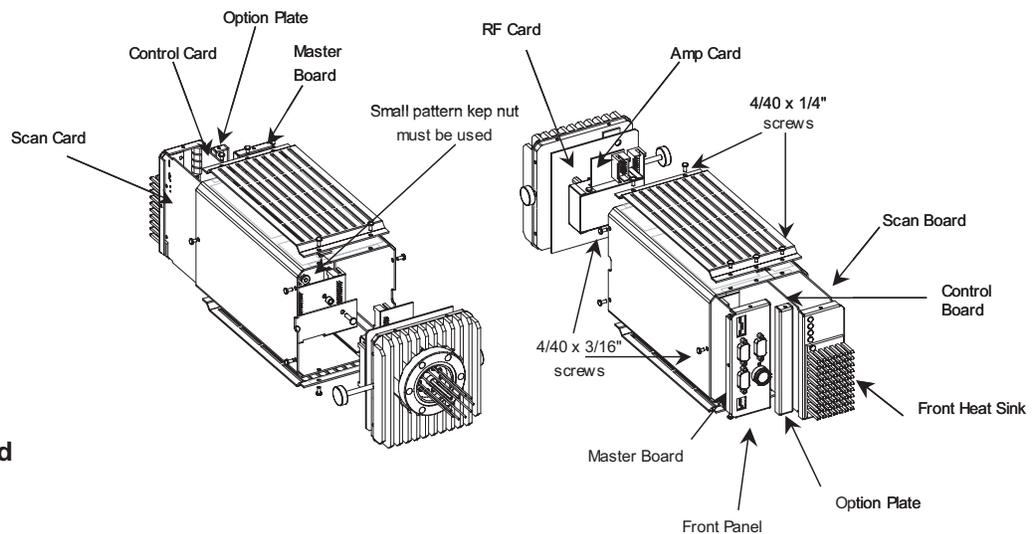

Figure 5-1.
The electronics unit contains six boards (Figure 5-1) that can be replaced in the field if damaged or found to be not working properly. These boards can be replaced using only a #1 Phillips screwdriver and a 1/4" nut driver. The boards are:
The Master board is found behind the front panel of the electronics unit to the left of the heat sink (see Figure 5-1). The entire front panel is part of the Master board and is returned to the factory when a replacement board is ordered.
2. Remove the 1/4" screws from the top and bottom of the unit and the 3/16" screw from the left side of the unit (see Figure 5-1). These three screws hold the board in place.
The Control Board is located behind the front heat sink and the LED panel on the left-hand side (see Figure 5-1). It is the shorter of the two boards attached to the LED panel.
2. Remove the 1/4" screws from the front top and bottom casing of the unit and the 3/16" screw from the right side See Figure 5-1.
The Scan board is located across from the Control board and to its right, behind the LED panel and the front heat sink. It is the longer of the two boards attached to the LED panel. See Figure 5-1.
2. Remove the 1/4" screws from the front top and bottom casing of the unit and the 3/16" screw from the right side. See Figure 5-1.